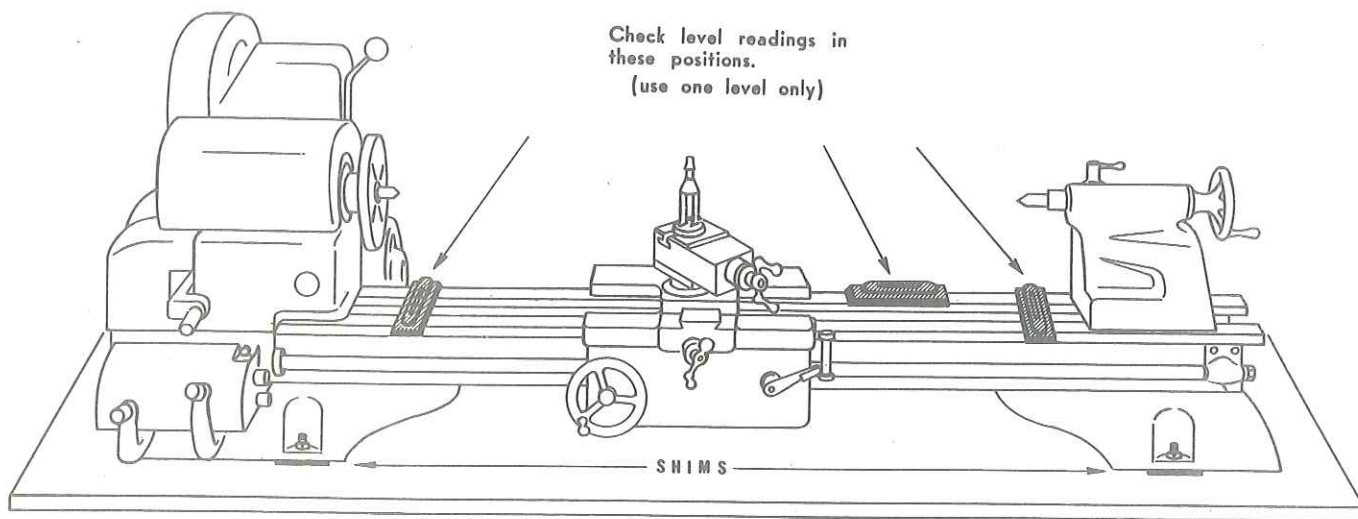

Figure 7
1. First level bed longitudinally, compensate for variations of bubble readings with thin metal shims placed around bolts between bed legs and bench top until bed is level -- refer to Fig. 7 for leveling positions.
2. Next, level the bed at headstock and tailstock -- see Fig. 7. Place level at right angles to the bed -- use a square to align the level. *Do not turn level end for end.*